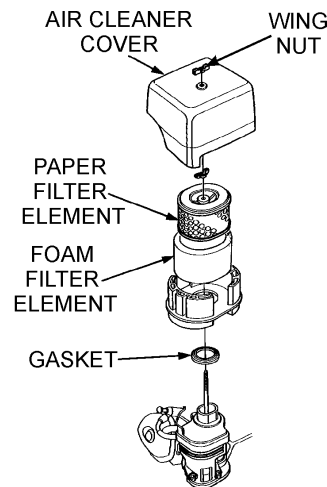

Figure 20. Engine Air Cleaner
1. Remove the air cleaner cover and foam filter element as shown in Figure 20.
2. Tap the paper filter element (See Figure 20) several times on a hard surface to remove dirt, or blow compressed air [not exceeding 30 psi (207 kPa, 2.1 kgf/cm2)] through the filter element from the air cleaner case side. **NEVER** brush off dirt. Brushing will force dirt into the fibers. Replace the paper filter element if it is excessively dirty.